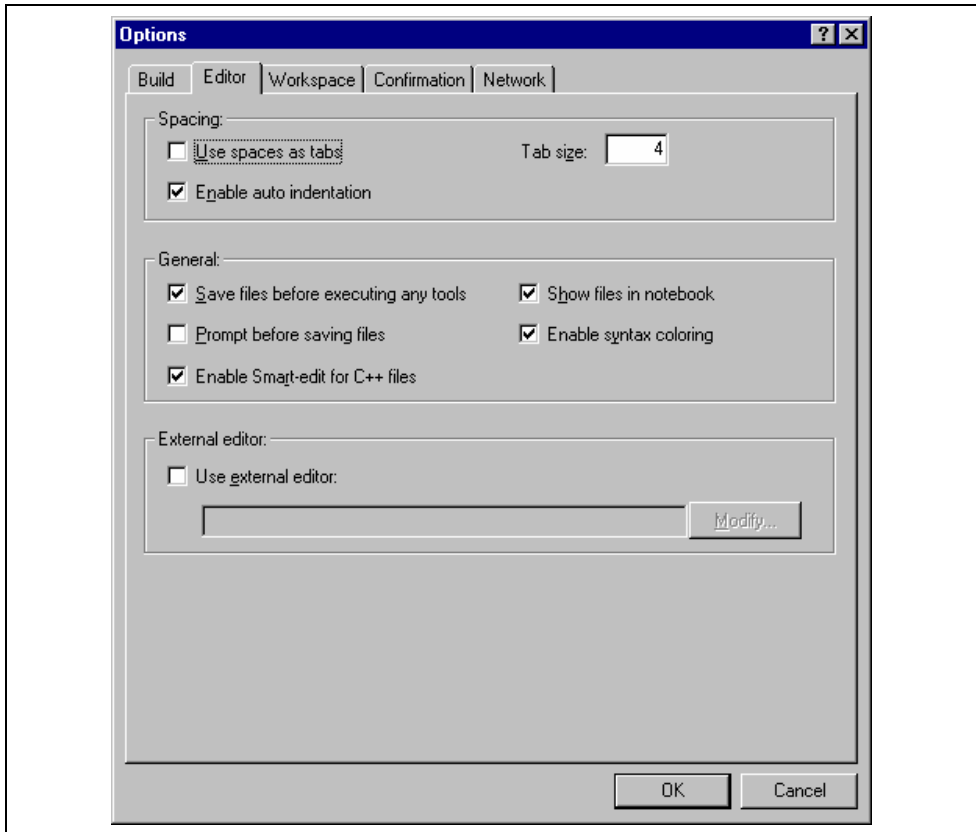

Figure 4.7: Options Dialog Editor Tab
1. Select [**Tools->Options...**]. The “Options” dialog will be displayed. Select the “Editor” tab (figure 4.7).
1. Select [**Tools->Options...**]. The "Options" dialog will be displayed. Select the "Editor" tab (figure 4.7).